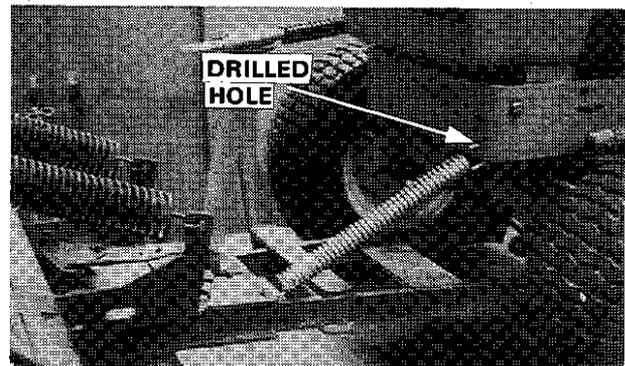

**Figure 5. Chain Installation (Group 3 Tractor Shown)**
- Insert **capscrew** (A, figure 5) through tractor frame. Tighten snug only **at** this time. (Spring,(B) will be installed in step 7.) **From inside** the frame, install locknut.